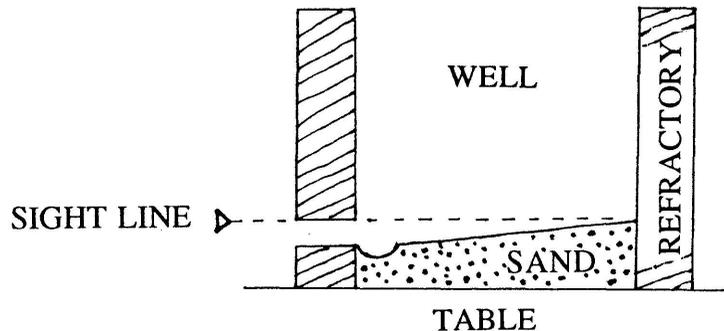

Fig. 7. Slope of Bed, note "site" lines.
3. pack bed sand to firm and smooth. See Figs. 7 and 8.